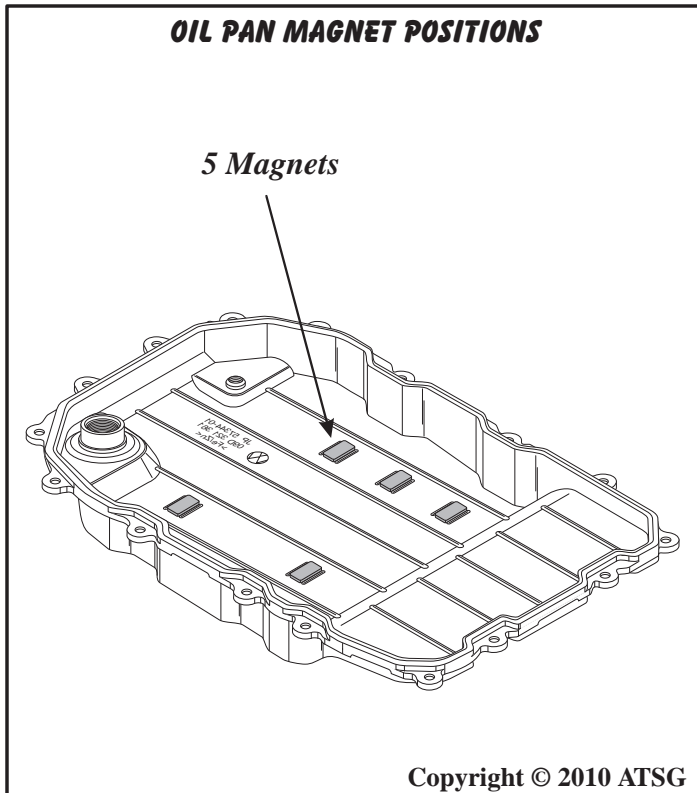

Figure 237
67. Install the five oil pan magnets between the ribs provided in the oil pan, as shown in Figure 237.